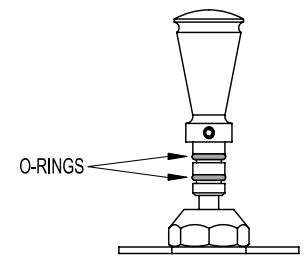

Fig. 3
Step 8: Return the Trans Dipstick Handle and Inner Measuring Cable into the Stainless Braided Housing, being sure that the black o-rings are in place around the Trans Dipstick Handle as shown in **Fig. 3**.